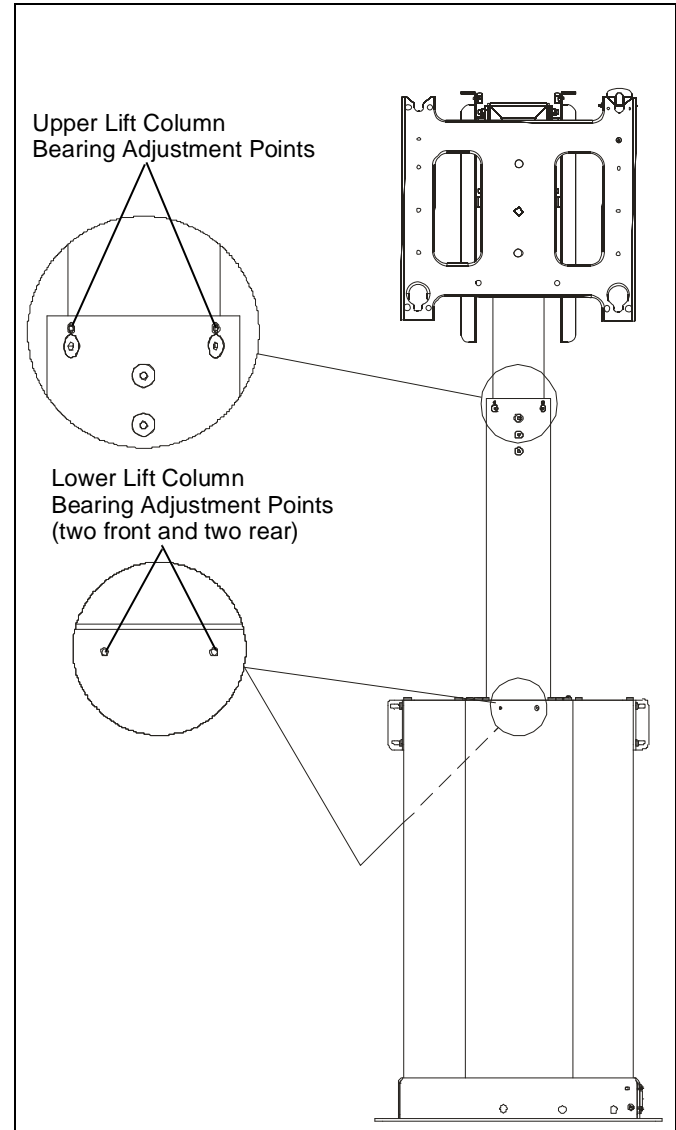

Figure 28
2. Using a hex wrench, turning in small increments evenly across all adjustment screws, loosen or tighten adjustment screws. (See Figure 28)